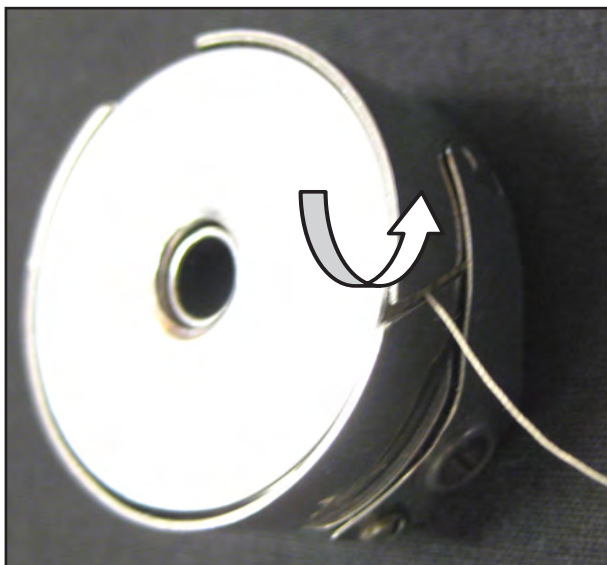

Figure 14
2. Slide the thread through the slot (Figure 14) and under the tension spring leaving 5-6 inches of thread hanging loose (Figures 14 and 15).